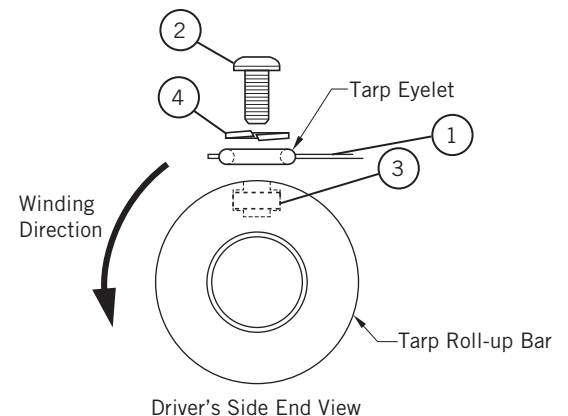

Figure 13
- 1) See Figure 13. Pull the loose end of the tarp (1) over the roll up bar, winding from the topside. Make sure the tarp is centered from side to side.
- 3) Secure tarp (1) with 1/4-20 pan head Phillips (2), 1/4-20 square nuts (3), and 1/4 split lock washers (4).